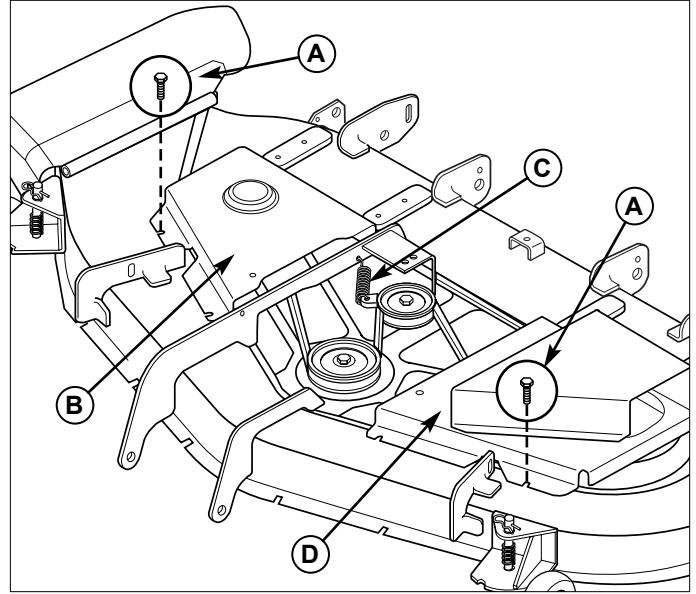

Figure 43. Mower Deck
3. Remove the capscrews (A, Figure 43) securing the right-hand arbor cover (B, Figure 43). Remove the capscrews (A, Figure 43) securing the left-hand arbor cover (D, Figure 43). Remove both arbor covers.
4. Using a pair of locking pliers or a spring puller, remove the idler pulley spring (C, Figure 43) from slot in deck.
7. Reinstall spring (C, Figure 43) into its slot in mower deck.
8. Reinstall the right and left arbor covers (B and D, Figure 43) and secure with the capscrews (A, Figure 43).